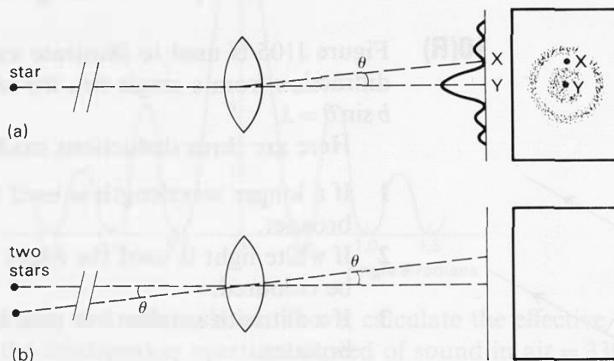

Figure J106
- 13(L)** A telescope is set to view a star. The image at the focus of its main lens, when viewed through an eyepiece or when photographed, is not a sharp point of light, but is blurred out into a disc surrounded by some fainter rings. Figure J106(a) suggests the way the intensity varies across the pattern. A line from point X on the pattern to the middle of the lens makes an angle θ with a line from point Y at the middle of the pattern to the lens.
- b The same telescope is pointed at a pair of stars which happen to subtend at the lens the angle θ mentioned above, as indicated in figure J106(b).
- c** The telescope is pointed at a planet whose diameter subtends this same angle θ at the telescope. Would the pattern shown in figure J106(a) be altered much?